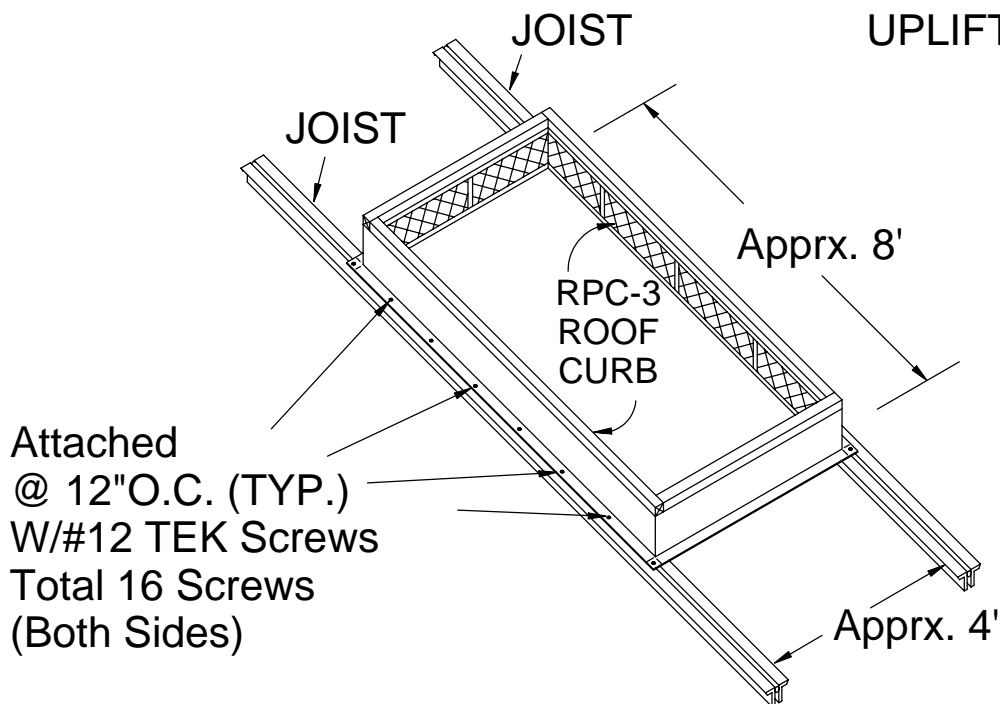

FIGURE 10
7. Wind force calculations. (fig. 10)